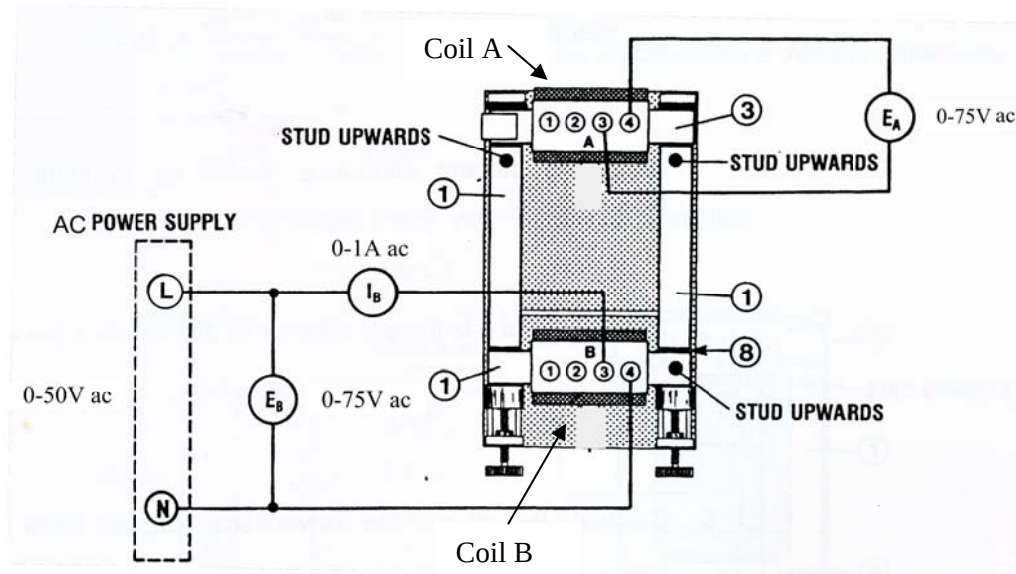

Fig. 7 Circuit used for measuring X_B and M_{BA} and k_{BA}
9. Reconnect the circuit of Figure 6 as shown in Figure 7, with the power supplied to coil B instead of coil A. Apply 50V to coil B. Measure I_B and E_A and calculate L_B , M_{AB} and K_{AB} . Use equations (5), (7)-(10) (with appropriate change of subscript) to calculate M_{AB} , ϕ_A and